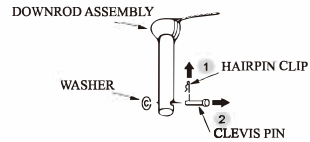

FIG.2
1. Remove the hairpin clip & washer from the clevis pin and remove clevis pin from down rod. (See fig.2)